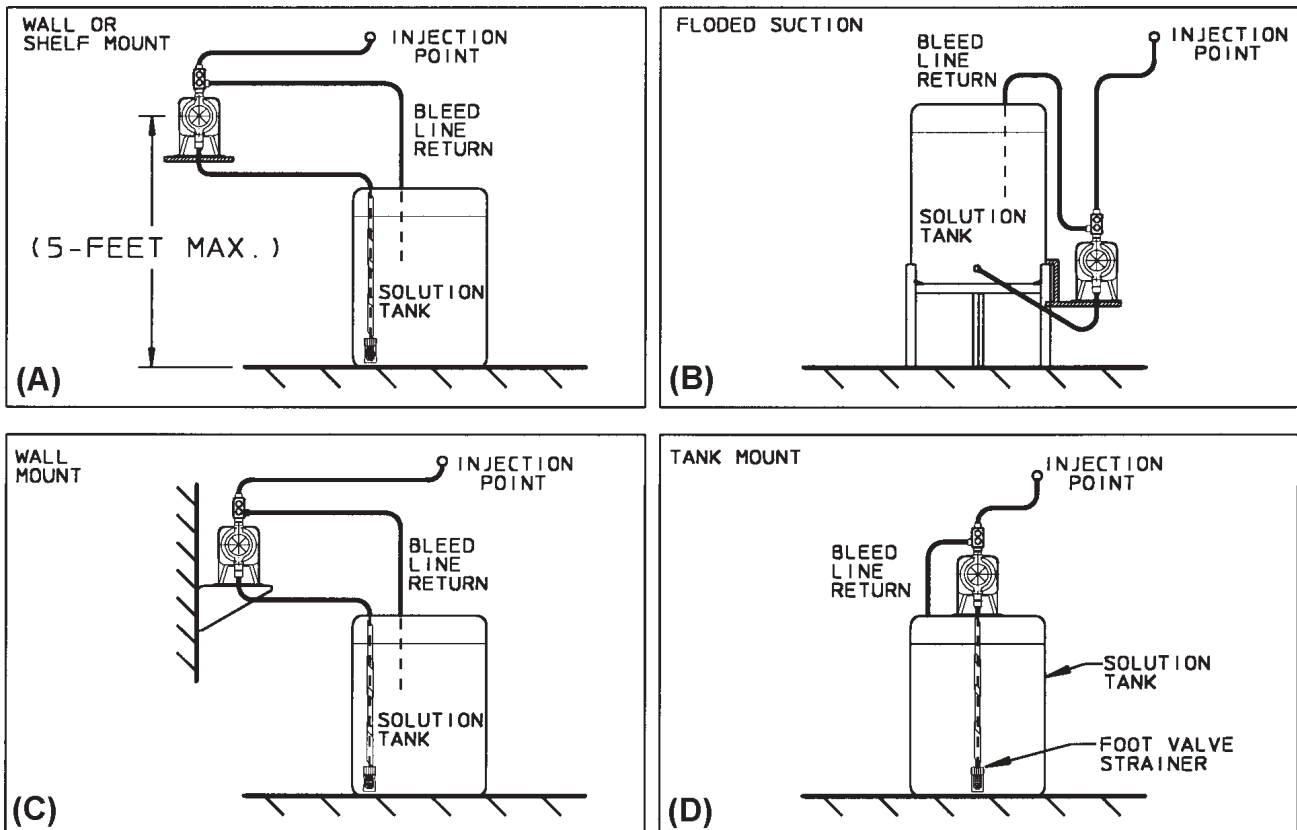
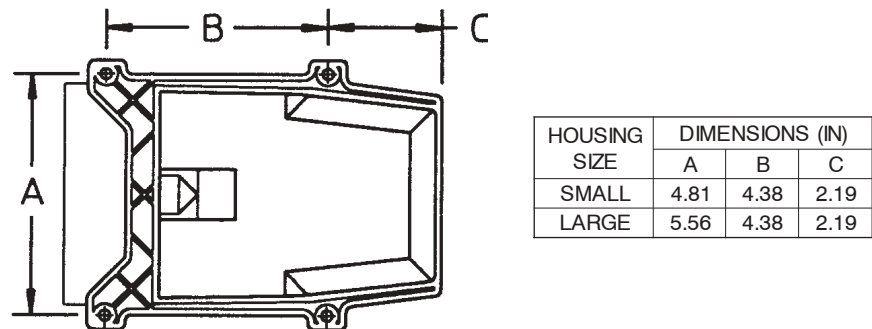

Figure 2.1
Figure 2.2
Typical mounting arrangements are shown in Figure 2.1.
- For wall or shelf mounting, refer to Figure 2.1(A). Connect suction tubing to suction valve of chemical pump. Suction valve is the lower valve. Tubing should be long enough so that the foot valve/strainer assembly hangs about two to three inches above the bottom of chemical tank. To keep the chemical from being contaminated, the tank should have a cover.
- Flooded suction mounting (installing the pump at the base of the chemical storage tank, as shown in Figure 2.1(B)) is the most trouble-free type of installation and is recommended for very low output requirements. Since the suction tubing is filled with chemical, priming is accomplished quickly and the chance of losing prime is reduced.
To mount the pump, drill four holes of 1/4-inch diameter in the shelf as shown in the dimension drawing (Figure 2.2). Attach pump securely using four #10 bolts and nuts.
- The pump can be mounted to a wall, as shown in Figure 2.1(C). A wall-mount bracket kit is available that includes all necessary hardware to mount the pump to the wall. Mounting the pump other than as shown in Figure 2.1(C) defeats the purpose of the housing drain. Mounting dimensions for the pump are provided in Figure 2.2 for reference.
- The pump can be mounted on top of a solution tank as shown in Figure 2.1(D). Install the chemical pump on the cover. Insert suction tubing through the center hole and cut tubing so the foot valve/strainer hangs about two or three inches above the bottom of the tank. Mount the chemical pump rigidly by drilling four 1/4-inch holes and using our #10 screws and nuts.
- To prevent clogging or check valve malfunction, always install a strainer assembly to the end of the suction tubing (see Figure 2.1(D)). This foot valve/strainer assembly should always be installed two to three inches above the bottom of the chemical tank. This will help prevent clogging the strainer with any solids that may settle on the tank bottom. The chemical tank and foot valve/strainer should be cleaned regularly to ensure continuous trouble-free operation. If the chemical being pumped regularly precipitates out of solution or does not dissolve easily or completely (e.g., calcium hydroxide), a mixer should be used in the chemical tank. These are readily available in many motor configurations and mountings. To obtain a mixer, contact your supplier.